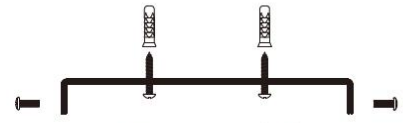

Figure-01
- 2.Fix the mounting bracket on the ceiling(See Figure-01)